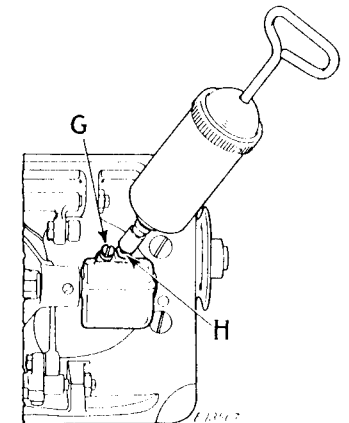

Fig. 5
To supply grease to the lower gear case (Fig. 5), lay the machine back on the table, remove the level hole screw (G, Fig. 5) and force the lubricant into the Alemite Fitting (H, Fig. 5) until it emerges from the level hole at (G), then replace the screw (G).